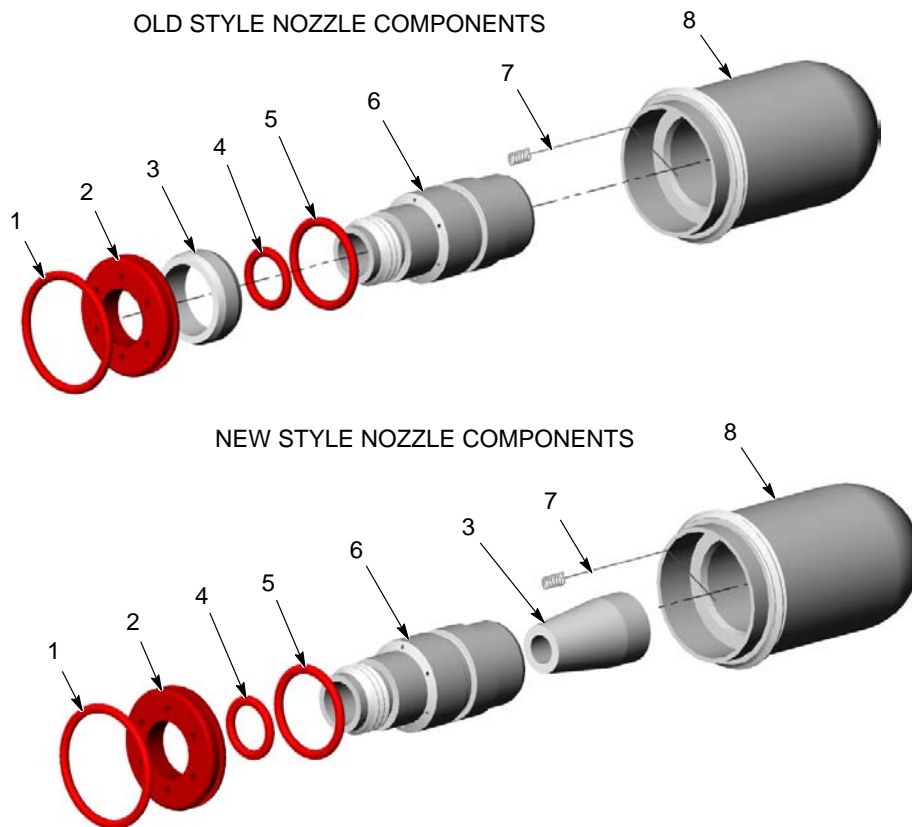

Figure 9 Internal Components of Nozzle Assemblies
NOTE: See Figure 9. Old style nozzles have a disk-shaped filter (3) installed on the outside of the insert (6) and held on by the electrode ring (2). New style nozzles have a conical filter that is installed inside the front end of the insert. The old style filter and insert are obsolete. If you are replacing the filter on an old style nozzle, you must also order a new insert. The new filters are available in quantities of 10.